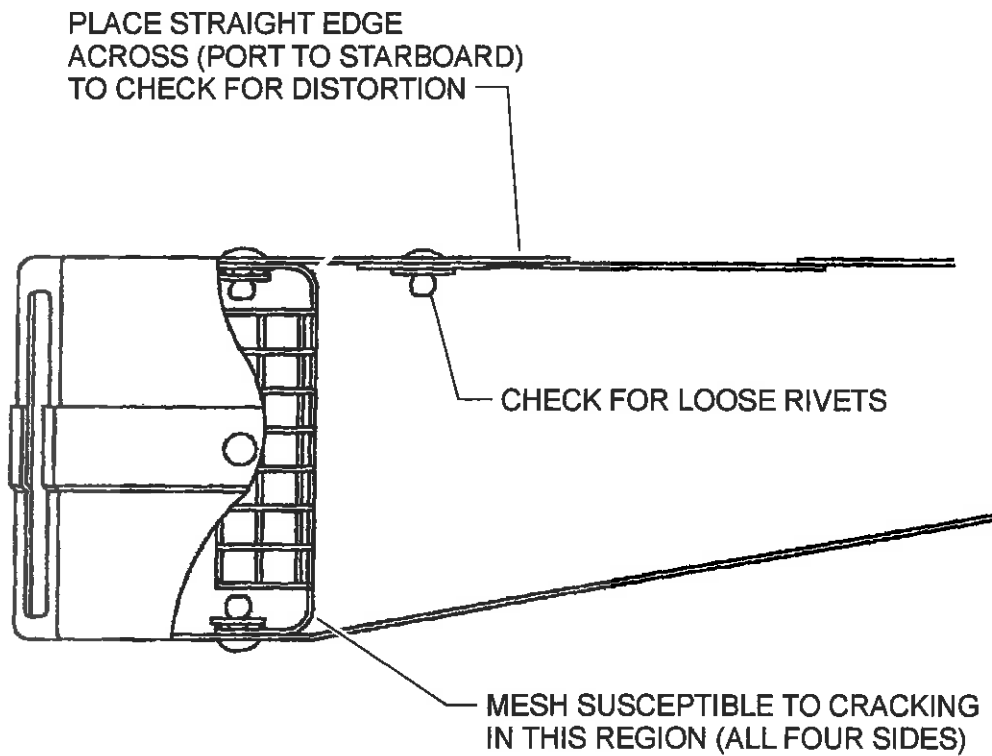

FIGURE 1 AIR INTAKE DUCT T67M-50-101
4. Pre Mod M760, part no. T67M-50-101, Ref. Figure 1: